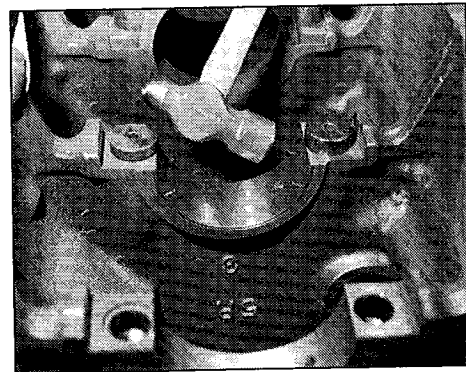

FIG. 3 PEENING RIVETS
8. Clean drilled hole of chips and install rivets (supplied with bushing PT 16012 (4) req'd) in all four holes. **NOTE:** Rivets will protrude approximately .100".
9. Peen rivets down flush. (Fig. 3).